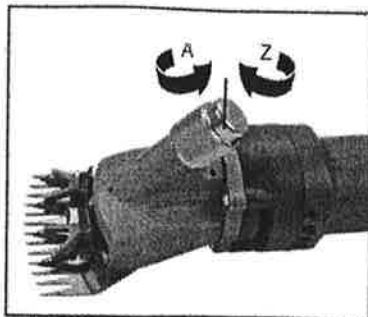

Fig. 3 (Adjusting Nut)
- 1.2 Adjust the tightness of blades by rotating the adjusting nut clockwise (see Fig. 3) until a resistance is felt. Rotating the adjusting nut anti-clockwise will loosen the blades (see Fig. 3).
5. Clean dirt on the blades. After the completion of one sheep shearing, rotate the adjusting nut anti-clockwise (see Fig. 3) until blades can be removed. When the blades are removed, clean dirt built up on the lower blade as well as dirt buildups inside the upper blade. In doing so, these two blades can closely fit.